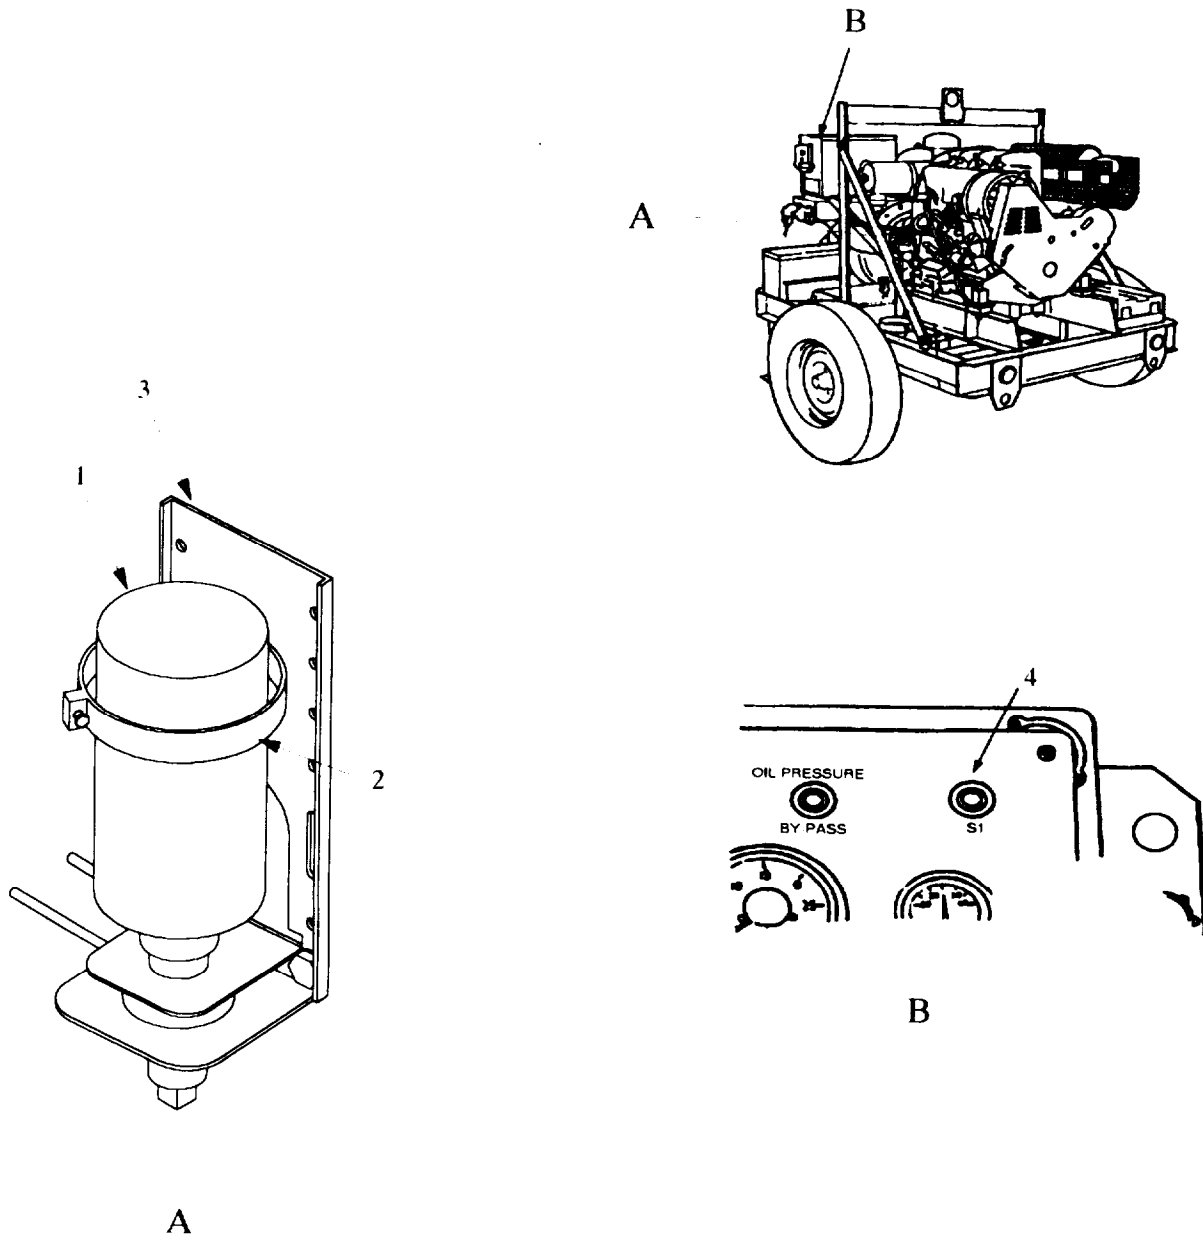

Figure 2-10.1. Cold Start Kit (Model 350 PAWN).
- a. The engine start cartridge(1, figure 2-10.1) is secured with clamp(2) in bracket(3) and mounted on the engine. To determine if the cartridge is serviceable or requires replacing refer to procedures in paragraph 4.10.3.1.